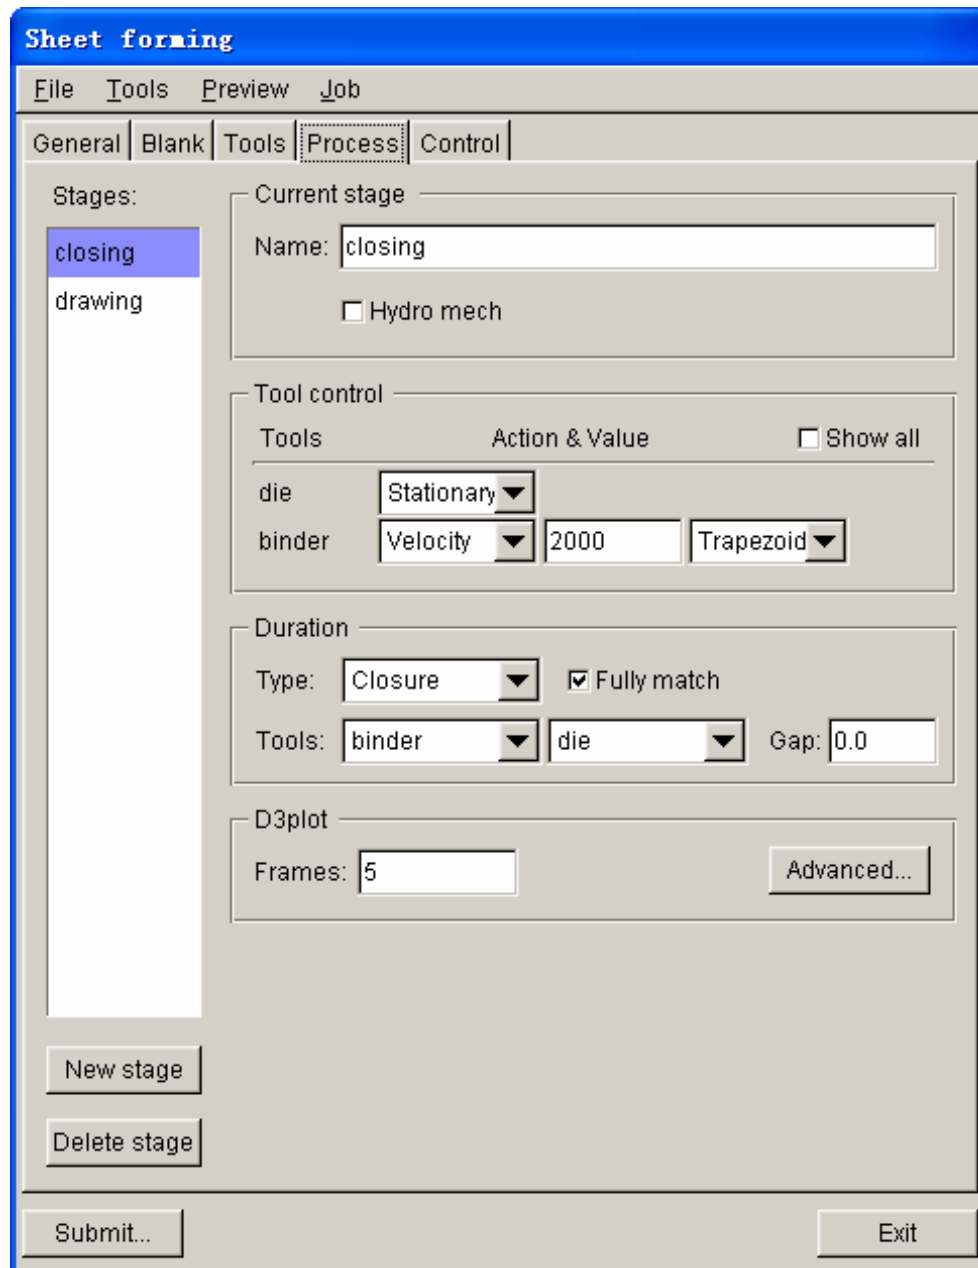

Figure 7.41 Closing process interface
1. Select **closing** process from the list located at left side of the process definition interface as the current process. See Figure 7.41.
2. Verify the default setting of **closing** stage is similar to Figure 7.41.